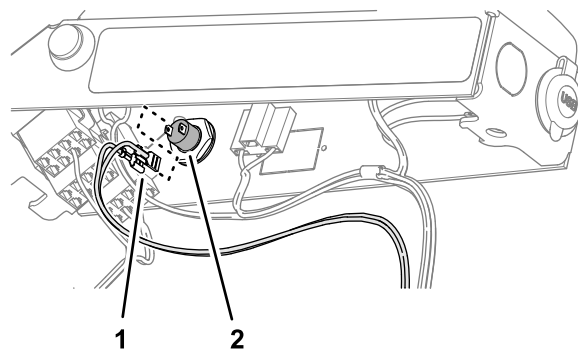

Figure 108
4. Assemble the terminals of the wire harness branch labeled REMOTE ENGAGE SWITCH) onto the terminals of the push-button switch (Figure 108).